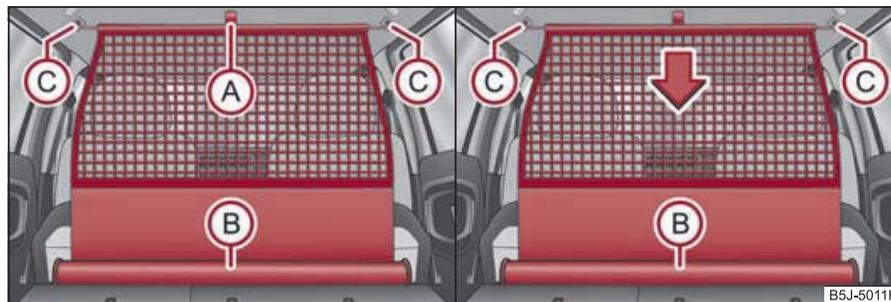

Fig. 67 Pull out the rear bulkhead/roll up
- Pull the luggage net partition at the bracket (A) out of the housing (B) ⇒ fig. 67.
- First of all insert the cross rod into the mount (C) on one side.
- Pull the cross rod back slightly, first on the one side then on the other side and take the cross rod out of the mount (C) ⇒ fig. 67. ▶
- Hold the cross rod in such a way that the luggage net partition can roll up slowly and without damage into the housing (B).